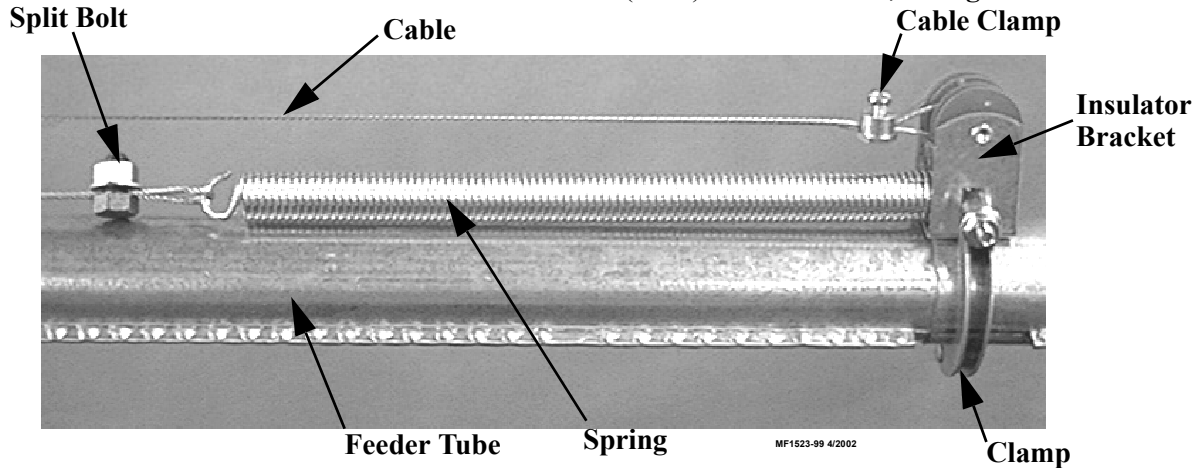

Figure 38. Spring and Insulator Bracket Installation
- Anchor spring to clamp on each side of the winch, see figure 38. Attach the Tube Clamp/Spring assemblies to the feeder line tube at a maximum distance of 100 feet (30 m) from the winch, see figure 36.
5. Loop the cable around the end of the Spring and secure with a split bolt cable clamp, see **figure 38**.